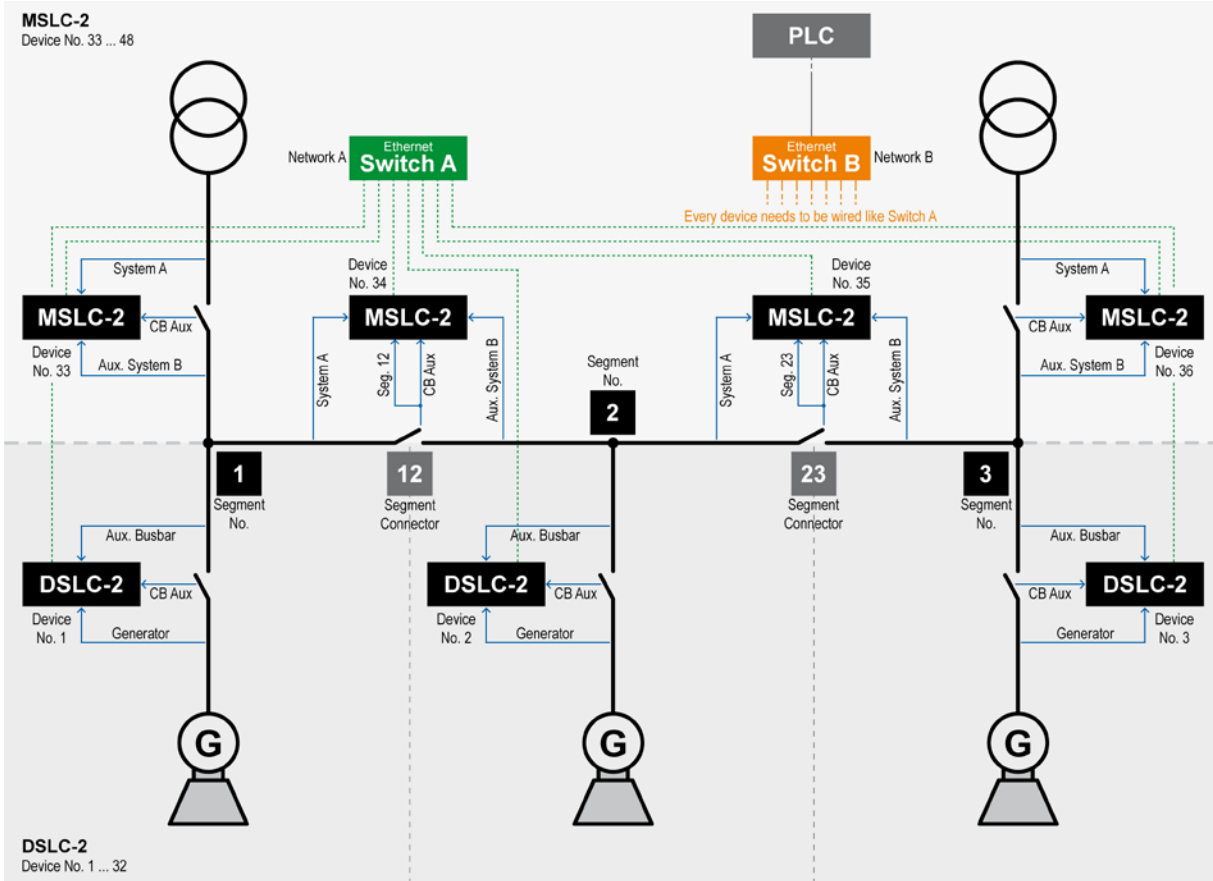

Figure 3-43: Example of an online diagram with according network
6. Draw the switch and its network for Ethernet channel A and B, if used, in your online diagram (refer to Figure 3-43).